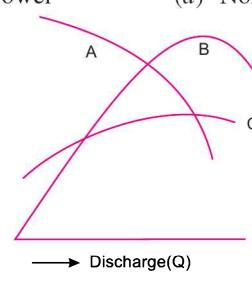

Fig. 5
- 299.** The operating characteristic curves of a centrifugal pump are shown in Fig. 5, curve A is for